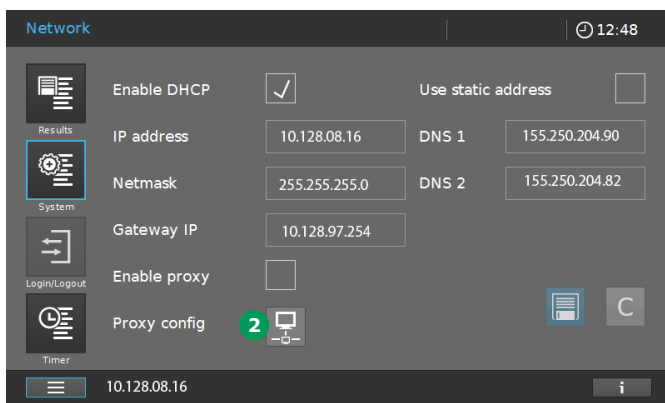

Figure 24 - After clicking on "Network" in the previous window (Figure 23), this window will appear
2. Open the Proxy config **2** in the Network menu (Figure 24).